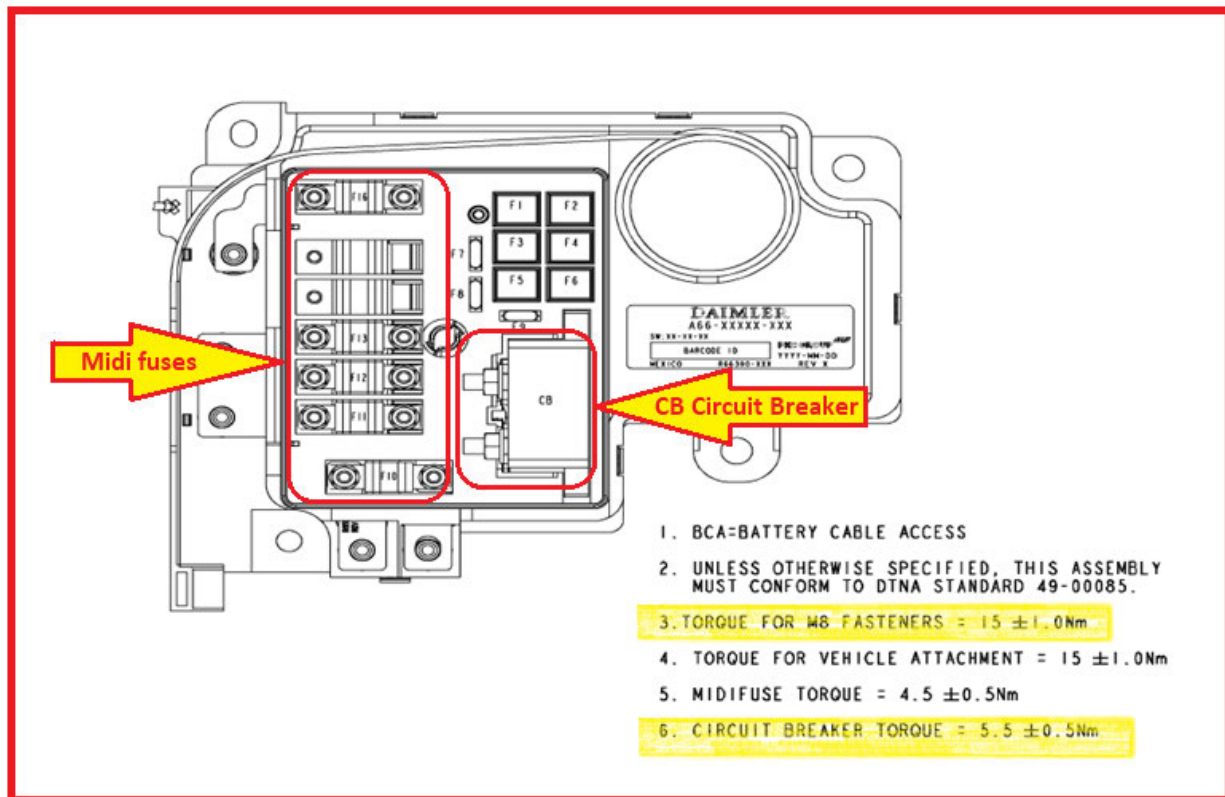

Fig. 4, CB Circuit Breaker and Midi Fuse Torque
Remove BCA cover and ensure that both circuit breaker (CB) nuts and Midi Fuses are torqued to spec.: 5.5Nm for circuit breaker, 4.5Nm for Midi Fuses. Reinstall cover. See Fig. 4 .